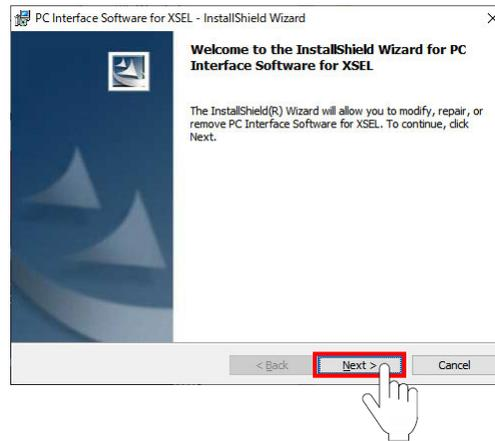

Fig. 1.8 PC Interface Software for XSEL - InstallShield Wizard Screen
- 6) The PC Interface Software for XSEL - InstallShield wizard screen (Fig. 1.8) will be displayed. Click **Next**.